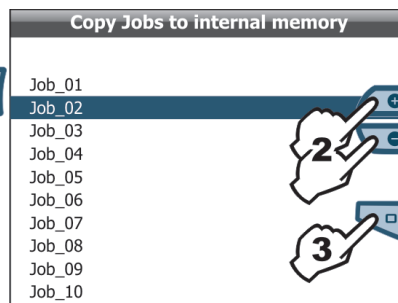

Fig. 65
- 2 Scroll the jobs list (Fig. 65) using keys **+** or **-** and select the file to copy;